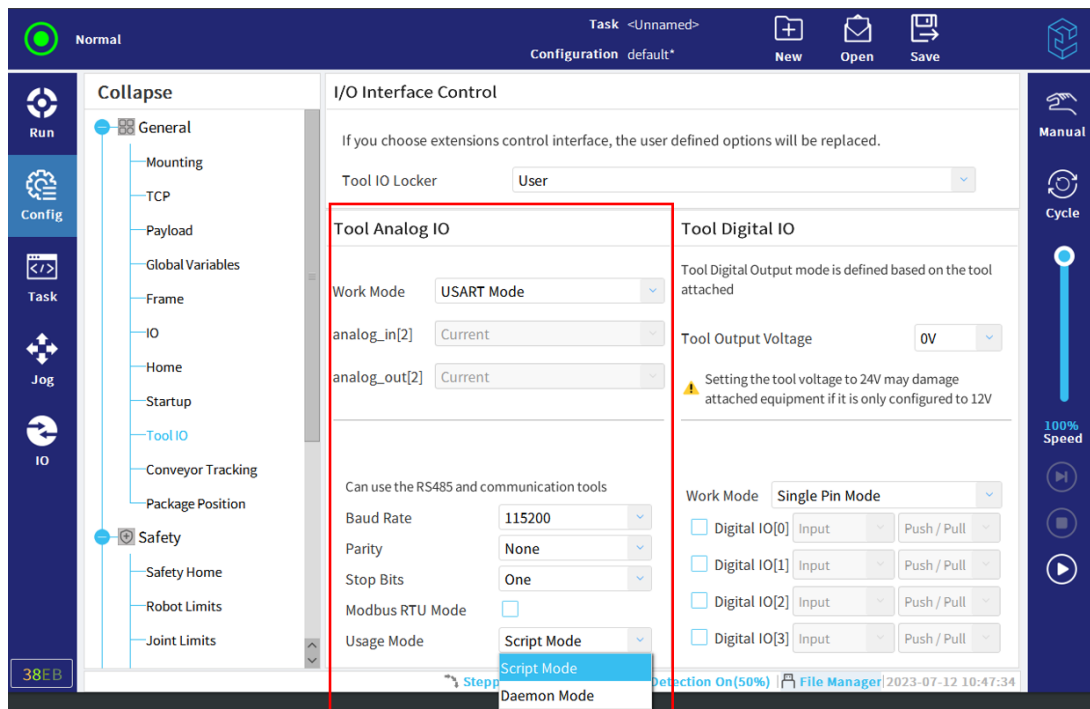

Figure 3-55 : Tool analog IO
1. Click "Config > General > Tool IO" to enter the "Tool Analog IO" interface, as shown in **Figure 3-55**.